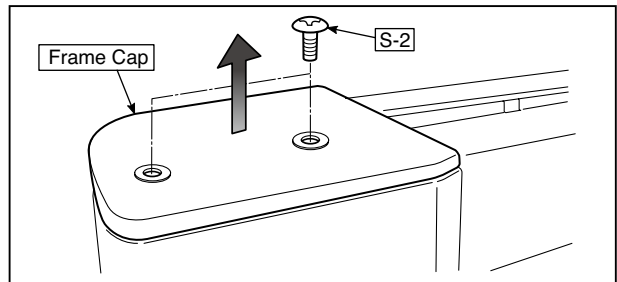

Fig.17
### 12) Remove the Frame Cap A/B. (See Fig. 17.)
1. Remove the "S-2" screws shown in the figure 17 and then remove the Frame Cap A/B.